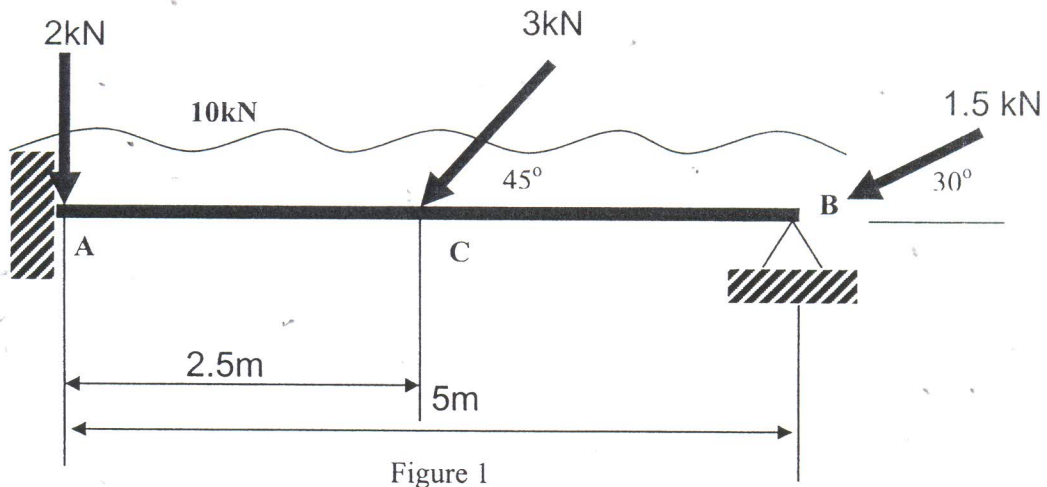

Figure 1
- b) Refer to the Figure 1 and answer the following questions